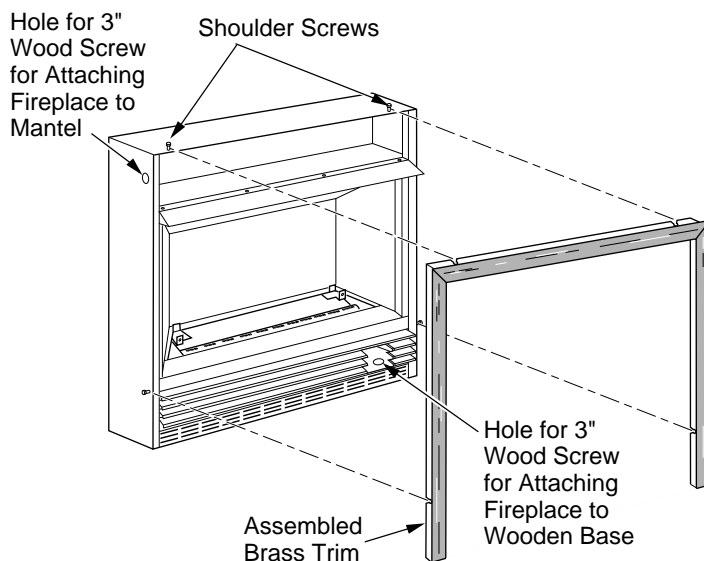

Figure 12 - Attaching Brass Trim to Fireplace
5. Firmly snap brass trim kit on shoulder screws. Shoulder screws are located on fireplace cabinet (see Figure 12).
7. Use two 3" wood screws provided and attach fireplace base to wooden base (see Figure 12).
14. Place brass trim kit on the shoulder screws located on the side and top of the fireplace. Firmly snap the brass trim over the shoulder screws on fireplace (see Figure 12, page 11).
15. Adjust assembly to remove any gaps. Attach remaining two 3" wood screws from hardware pack through openings inside of fireplace sides into the mantel. The openings are located at top behind the area for the brass louvers (see Figure 12, page 11).